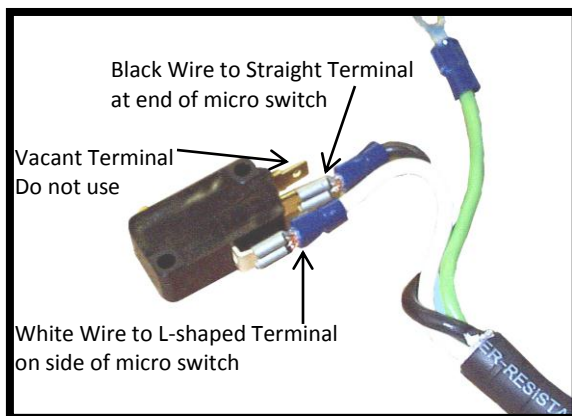

Figure 31: Microswitch wire Terminals
10. With a small flat-blade screwdriver, pry the spade connectors on the black and white wires off the micro switch (Figure 31). The R/L switch is now disconnected from the cable.
3. Connect the black and white wires from the R/L switch cable to the micro switch terminals (Figure 31).